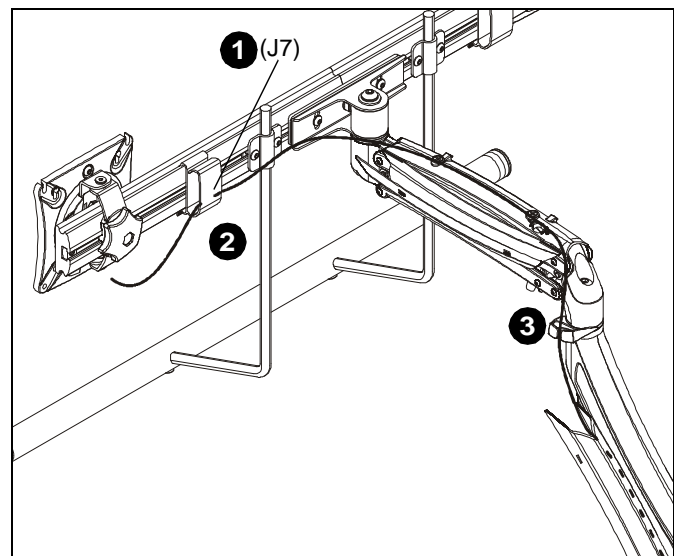

Figure 27
1. Install array cable clips (J7) to back of array. (See Figure 27)
2. Route cables through array cable clips (J7) as desired. (See Figure 27)
3. Route cables through arm cable clips as desired. (See Figure 27)